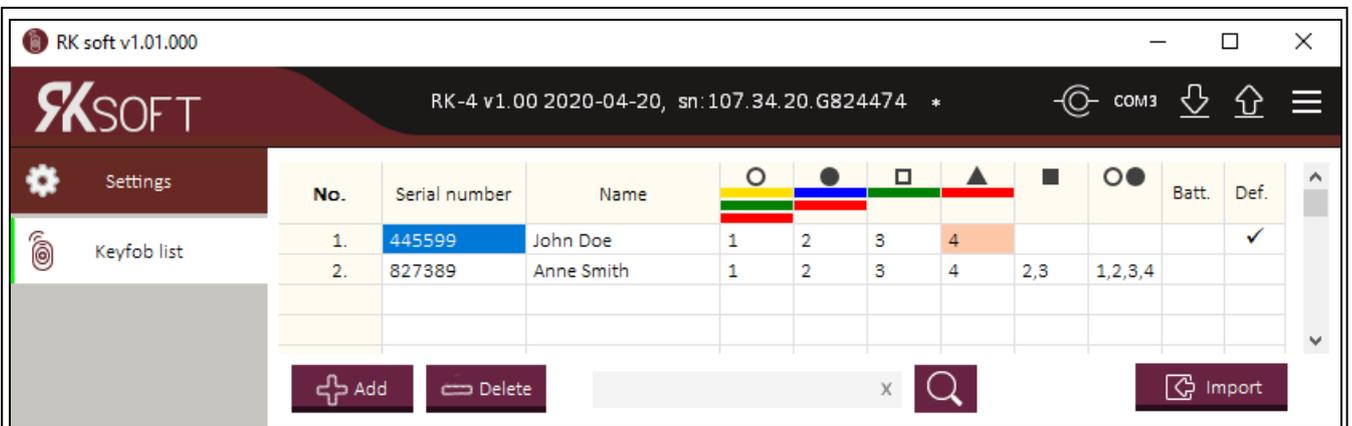

Fig. 7. RK Soft program: “Keyfob list” tab.
**Keyfob buttons** – for each button (combination of buttons), you can enter the number of the output to be controlled by the button (combination of buttons). You can assign up to 4 outputs to one button (see fig. 7). The symbols correspond to the buttons on the MPT-300